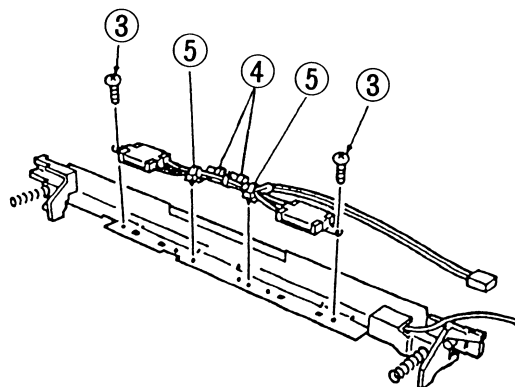

Figure 10-228
- 6) Butt the two heaters against the transfer guide as shown in Figure 10-228, and fix the two mounts with two screws (3); further, fix the harness in place using two harness bands (4) (front, rear).